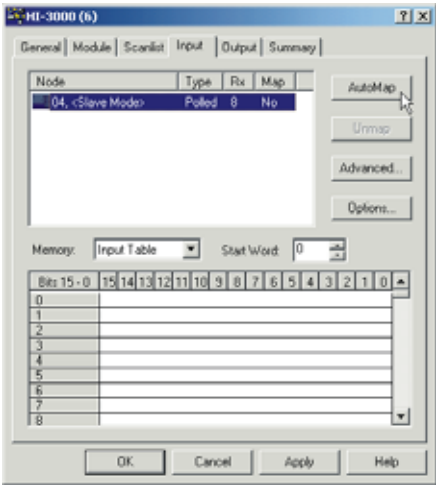

FIG. 122: INPUT PAGE/SELECTING AUTOMAP
- Step 7. Click on the Input Tab. The Input Page appears. (See Fig. 122)